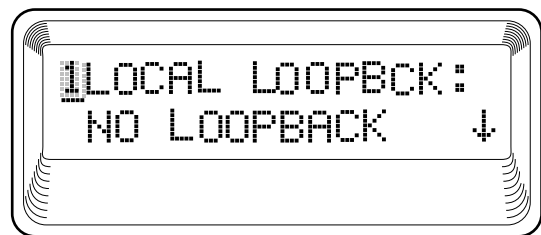

Figure 3-18. Local Loopback Screen
The network tests are run on the network interface (NI). Three different test configurations can be selected to determine the type of loopback and the pattern to run. Test results are displayed in the LCD window, as shown in Figure 3-18.